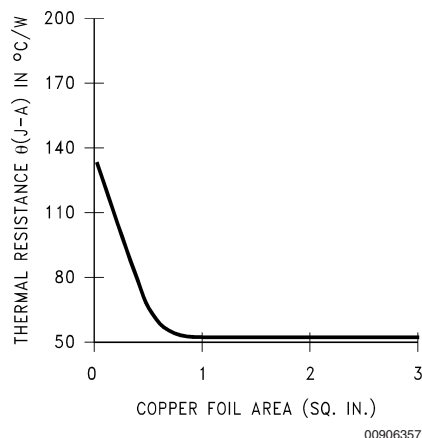
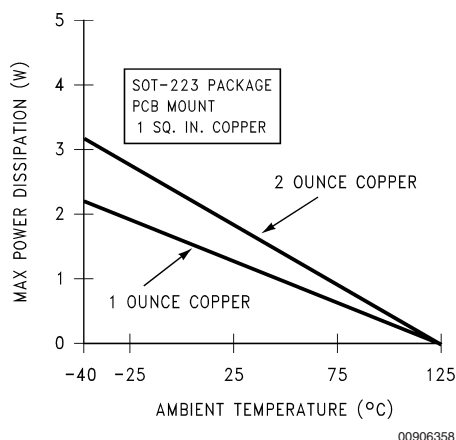

FIGURE 6.  $\theta_{(J-A)}$  vs Copper (2 ounce) Area for the SOT-223 Package
FIGURE 7. Maximum Power Dissipation vs  $T_{AMB}$  for the SOT-223 Package
*Figure 6* and *Figure 7* show the information for the SOT-223 package. *Figure 7* assumes a  $\theta_{(J-A)}$  of 74°C/W for 1 ounce copper and 51°C/W for 2 ounce copper and a maximum junction temperature of 125°C.